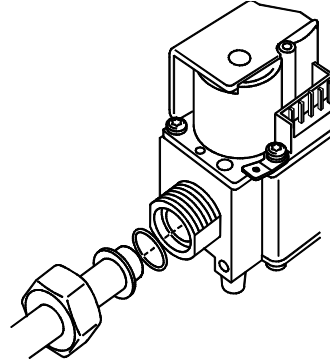

Fig. 7. External thread connection with nut and "O"-ring
- ❹ With $3/4$ " nut and "O"-ring (see fig 7.)